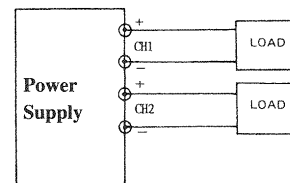

Fig. 5-2 Independent Operation
F. Fig.5-2 illustrates the connection procedure.